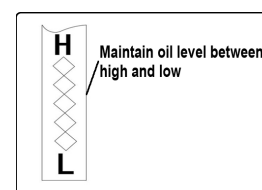

Figure 35
- Unscrew and remove oil fill cap from oil filler tube. Note oil level. If oil reading on dipstick is below "**LOW**" mark, slowly add oil to reach "HIGH" level. See Figure 35.